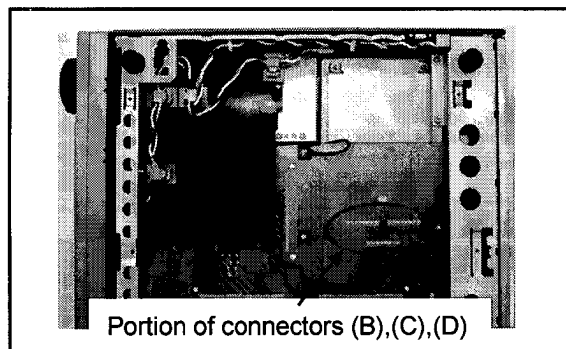

Figure 12-2
3. Press the portion of connectors (B), (C) and (D) on the MOTHER Board shown in figure 12-2. to combine completely.